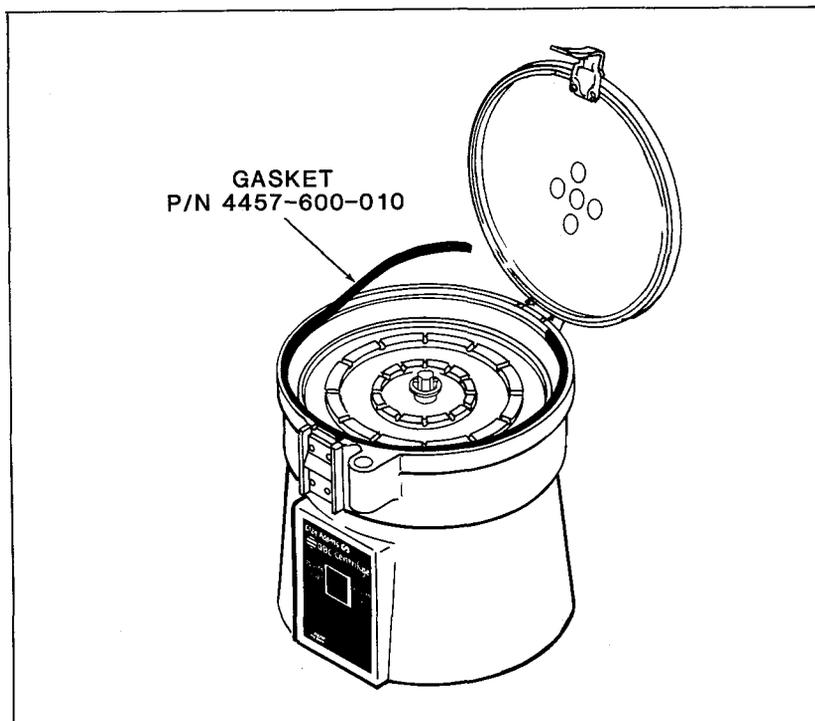

Figure 5-13. Lid-Seal Gasket Installation
- d. Orient new gasket as shown in Figure 5-13, and press firmly around circumference of groove. Make sure that open space between ends of gasket is at rear of centrifuge.